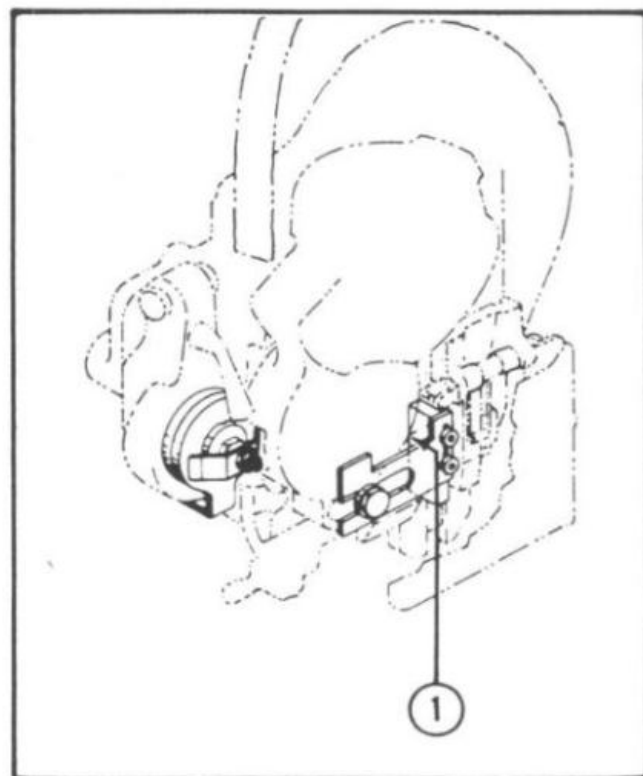

Figure 11—Cutter Block Scale (Long Draw Heads)
A length of wire draw scale, similar to that on the standard wire draw heads, is provided on the long wire draw head plates. In addition, another scale corresponding to the wire draw scale is provided on the cutter block and its holding plate, (1) Fig. 11. This scale provides a means of adjusting the staple left leg (positioning the cutter block) according to the wire setting. On these two scales the extreme right hand mark represents the maximum length of wire draw — i.e., on long wire draw head 2-3/8" (60.3mm). The other graduations in the scale do not represent any definite length of wire draw, but are used for setting the cutter block to coincide with the setting of the wire feed guard. If the wire feed guard is set at maximum wire draw—extreme right hand marking—the cutter block must be set at the same marking, etc.